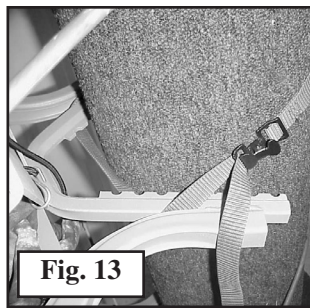

Fig. 13
A. Wrap the supplied strap with the spring lever buckle around the tree and seat frame, as shown in **Figure 13**. Securely tighten the strap to prevent the notched v-bar from losing contact with the tree.